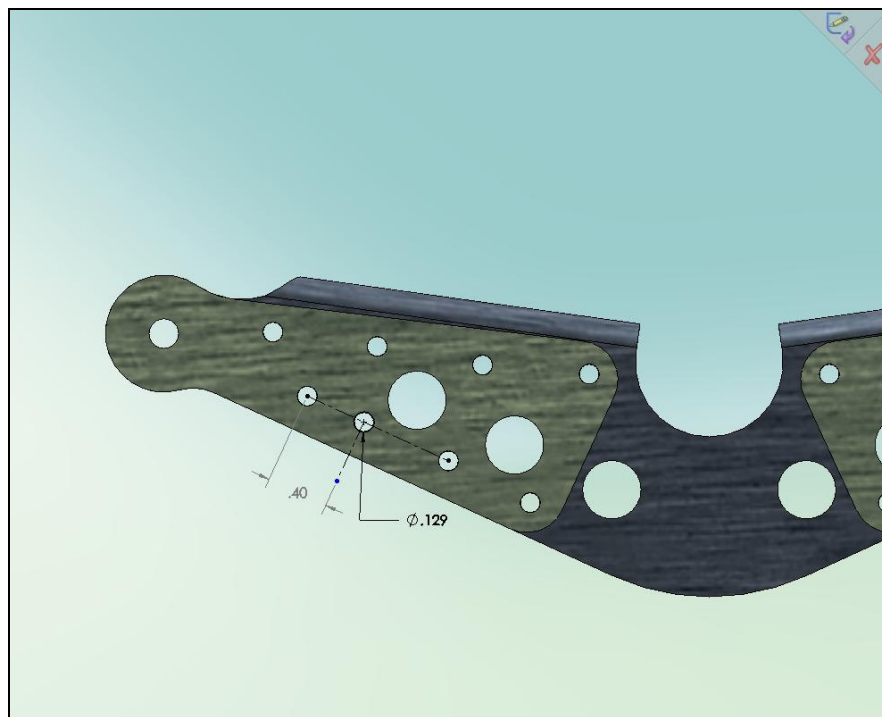

Figure 2
2. Once the rudder horn doubler and rudder horn are aligned and secured, drill $\text{Ø}.129$ thru rudder horn to match rudder horn doubler as shown in Figure 2. Add additional rivet holes to SC81211-001 and rudder horn in location shown in Figure 2.